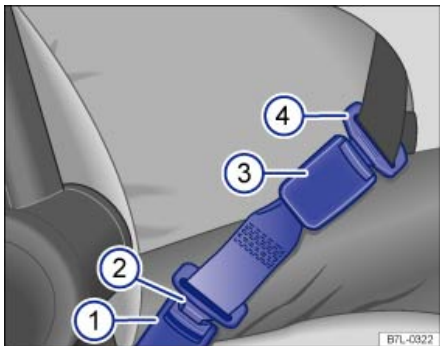

Fig. 59 A safety belt extender properly attached to the factory-installed safety belt.
Key to fig. 59:
- Insert the buckle tongue on the safety belt extender ⇒ fig. 59 \(2\) into the vehicle belt buckle for the seat where the safety belt extender is being used (1).